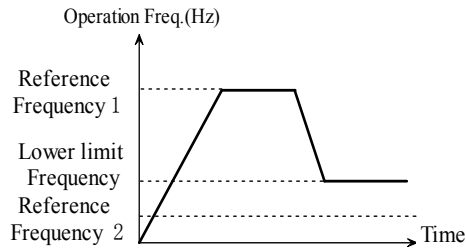

Fig. 5-2-3 Running at lower limit frequency
- ◆ Option 0: when the setting frequency is lower than lower limit frequency, the inverter will run at lower limit frequency instead of setting frequency. As shown in Fig. 5-2-3.